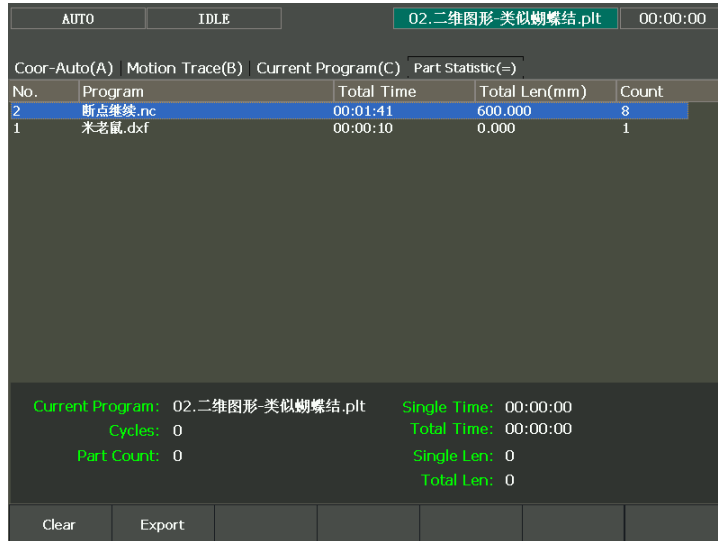

Fig. 3-43 Part Statistic Screen
Press [State] button in Auto mode, and then press “=” to enter [Part Statistic] screen, as shown in Fig. 3-43. The upper part of this screen displays the machining info about the machined files, including file name, total machining time, total machining length and machined times, while the lower part shows the info about current machining file, like name, single time, total time, single length, total length, cycles and part count. Among them, the counterpart of “Cycles” is the “Prog Cycle Times” under “Coor-Auto (A)” screen.